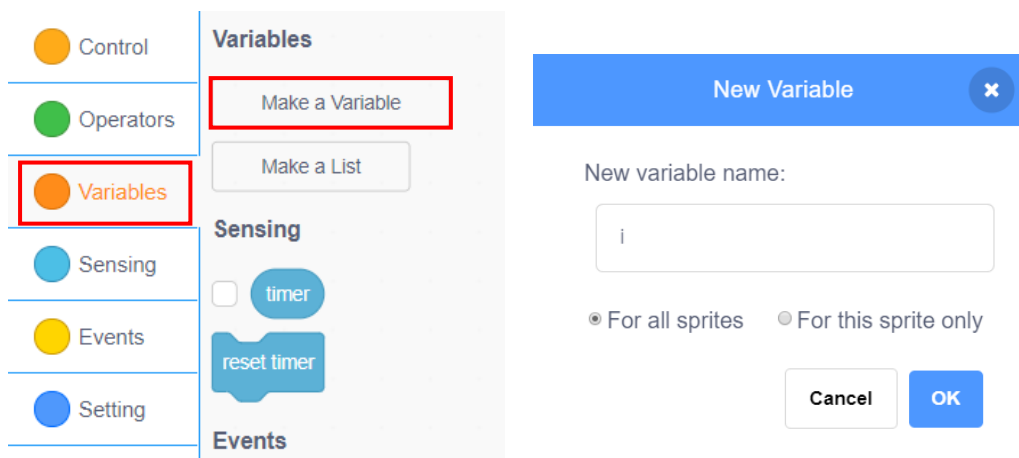

Figure 5.3 Creating a variable
Step 3: Click the "**Variables**" tab, and select "Create a variable" to create a variable "i", as shown in Figure 5.3.